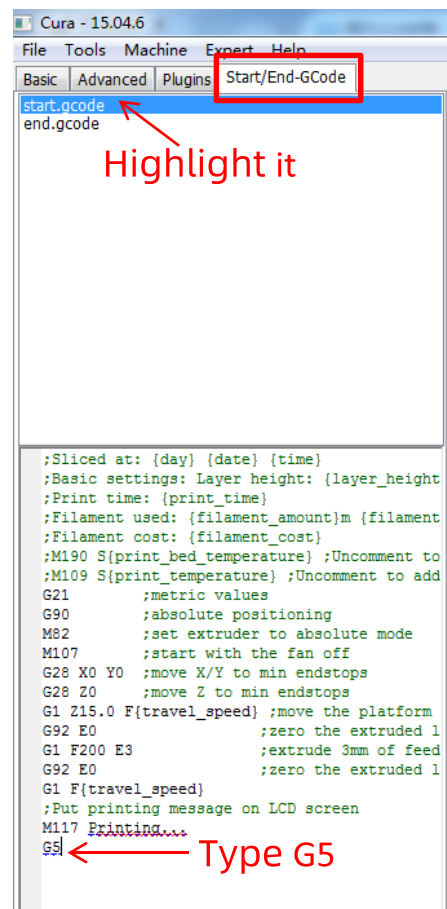

Figure 36
2. For the first time of using this function, customers are required to add "G5" to the start.gcode, as shown in Fig. 36. Then, save the model as GCode file to the memory card by "File" → "Save GCode".